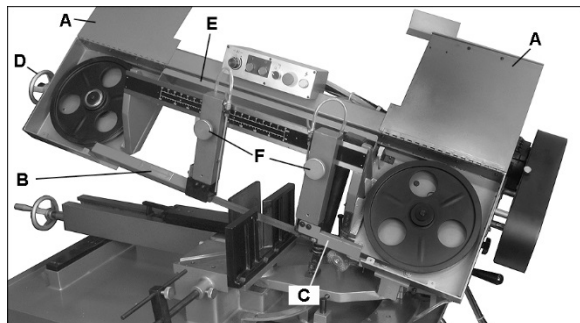
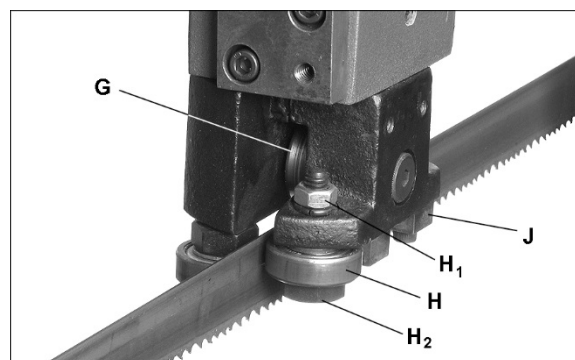

Figure 7-1
Figure 7-2: blade guide bearing adjustment
Refer to Figure 7-1.
3. Open both wheel covers (A, Figure 7-1) and clean out any swarf from wheel areas.
5. Release blade tension by turning blade tension handwheel (D) counterclockwise.
8. Position new blade around wheels and through upper blade guard (E, Figure 7-1). Slide it into the blade guide bearings with back edge of blade contacting backup bearing. (see Figure 7-2). If guide bearing adjustment is needed, see sect. 7.3
9. Lightly increase tension (D) and position blade so it rests against shoulder of both wheels.
The blade guide brackets (F, Figure 7-1) must be set to just clear the workpiece, but should not interfere with workpiece or other saw components during bow's descent.
The back of blade should ride against back-up support bearing (G, Figure 7-2) which is positioned at an angle to provide greater bearing support, eliminating bearing wear and extending blade life.